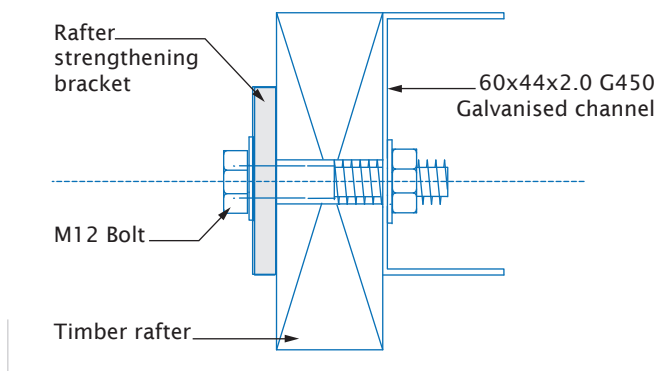

Figure 2.1
**Note:** It is the builder's responsibility to ensure the existing rafters and fascia are adequately reinforced and strengthened to accommodate any additional attached structure. The reinforcing method must be approved by the appropriate council or engineer. It is recommended an adjustable rafter strengthening bracket is used in conjunction with an extension channel, as shown in Figure 2.1.
In conjunction with rafter strengthening brackets a channel is fixed to the side of the house rafter (Figure 2.1). The bottom end of the channel will be located at the base of the house rafter. Holes should be marked and pre-drilled in the channel to suit the location of existing holes in the bracket. The channel will extend beyond the bracket so additional holes are to be drilled in the channel at approximately 500mm centres.
Insert the bracket through the fascia and fix with the channel to the house rafter using M12 hex head bolts through the existing holes in the bracket and further up the channel (Figure 2.1). Adjust the T piece so it is horizontal and has the appropriate extension past the fascia to allow for fixing of the attachment beam. T piece connection bolts are to be tightened to a minimum 50Nm torque.